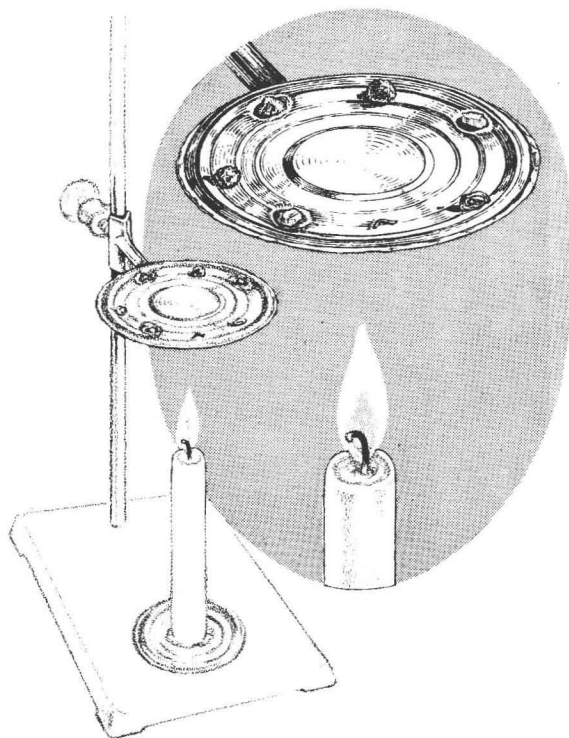

Fig. 2-1. Arrangement of substances on a lid.
- Place a tin can lid, tinned side up, on an iron ring attached to a ring stand as shown in Fig. 2-1. The lid should have three depressions to contain some of the substances tested—see (b). Adjust the height of the ring until the lid is about 8 centimeters (cm) above the candle (1 cm is almost  $\frac{1}{2}$  inch).
Place the candle wax, sulfur, and silver chloride each in a separate depression in the lid, and space the other substances as shown in Fig. 2-1. The amount and location on the lid are *conditions that matter*.